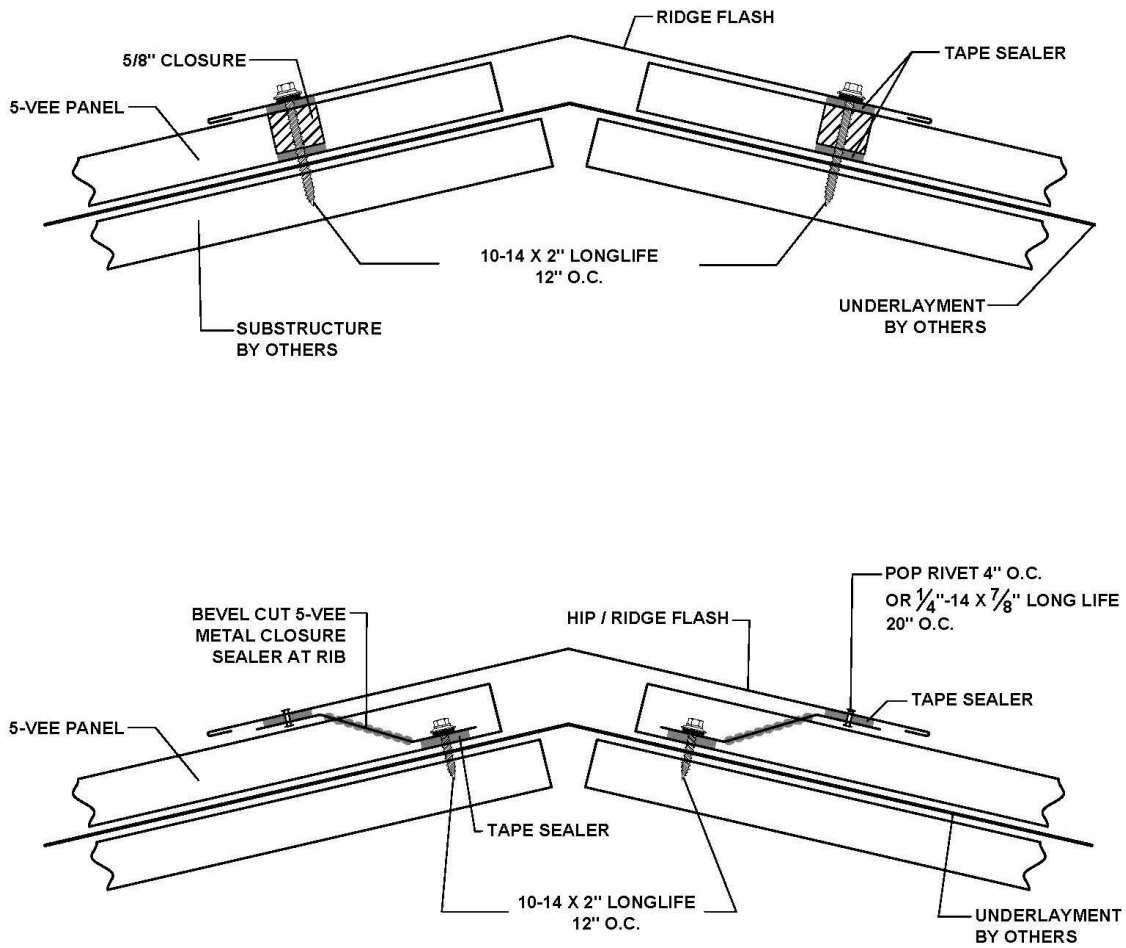

Figure 2: Ridge/Hip Details
**Ridge Flashing:** The ridge flashing must be installed as shown in Figure 2.